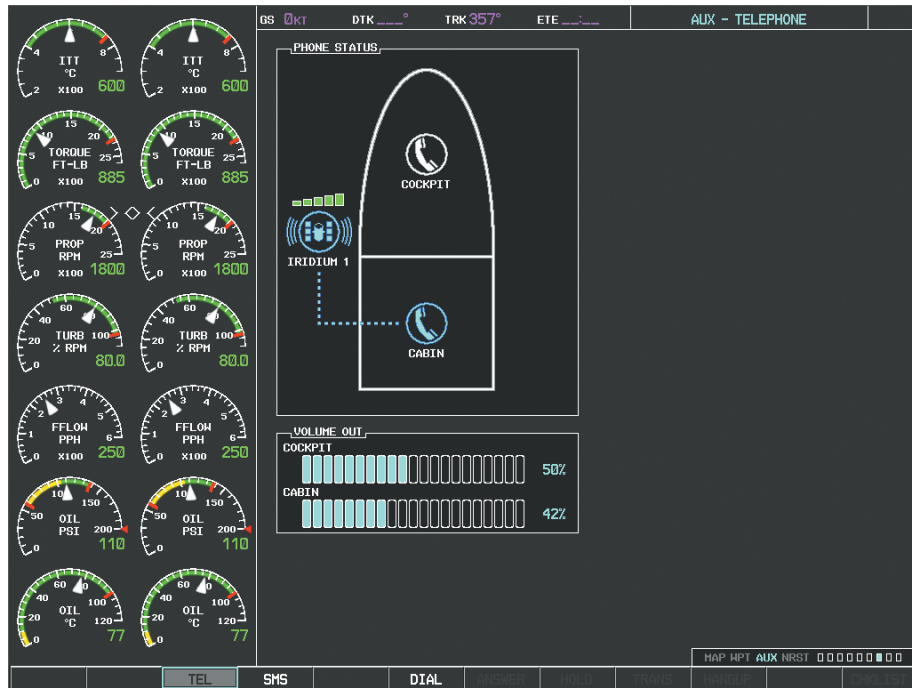

Figure 8-91 Call Transfer to an External Phone
5) Press the **ENT** Key again to place the call as shown in Figure 8-91.